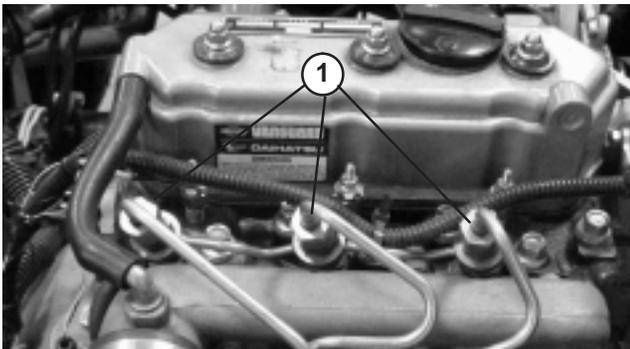

Figure 44
- Loosen the pipe connection to the No. 1 nozzle and holder assembly (Fig. 44).